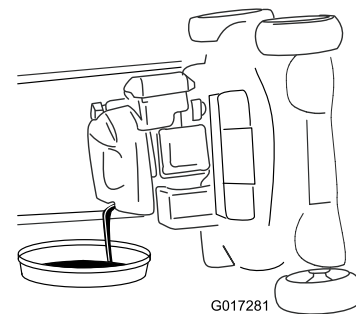

Figure 31
6. Remove the dipstick and drain the used oil into an oil-drain pan (Figure 31).